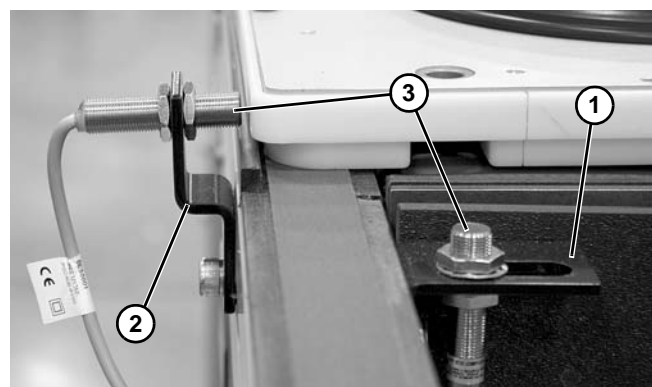

Figure 27
Optional bottom mount (**Figure 27, item 1**) or side mount (**Figure 27, item 2**) sensor brackets can be used to mount a 12 mm barrel proximity sensor (**Figure 27, item 3**). See "Optional Sensors" on page 8.